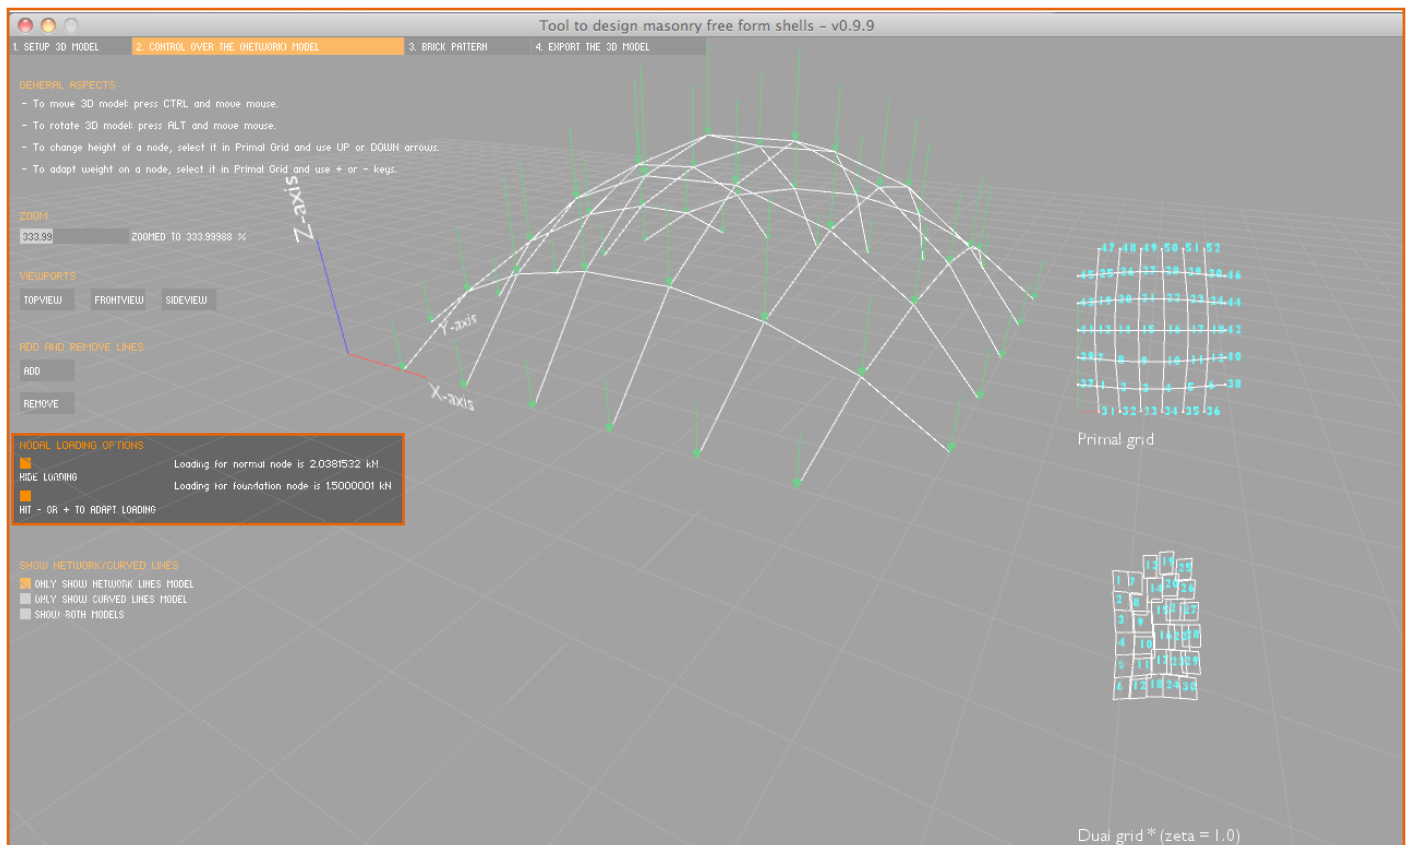

Figure F-9 - Tab 2 - Control the model and network - adapt loading of all nodes
1. *Adapt loading of all nodes at once* (Figure F-9).